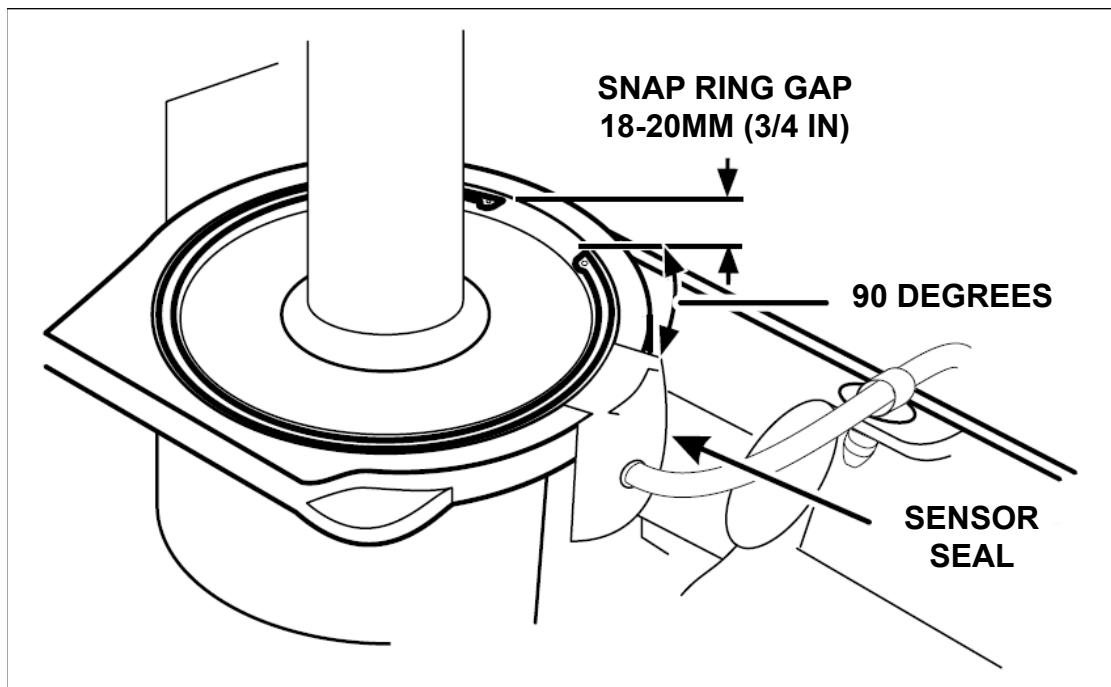

FIGURE 24
32. Ensure snap ring gap is positioned 90 degrees from sensor seal. Measure the gap between snap ring ears. Gap must be a minimum of 18 - 20mm to ensure snap ring is seated correctly. See Figure 24.